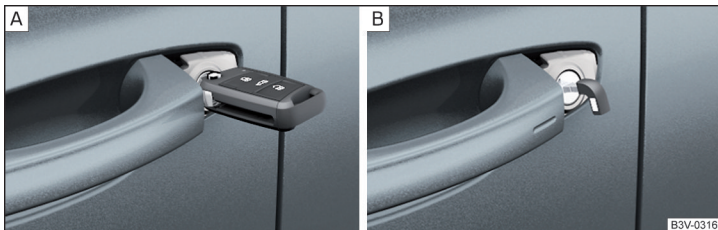

Fig. 348 Handle on the driver's door: Key with fold/out key bit/KESY key
- › For vehicles with **LHD**, insert the key with the fold-out key bit **with the buttons facing upwards** » Fig. 348 - [A] into the lock cylinder and unlock/lock the vehicle.
- › On vehicles with the **KESY system**, insert the emergency key with the handle facing downwards » Fig. 348 - [B] into the lock cylinder and unlock/lock the vehicle.